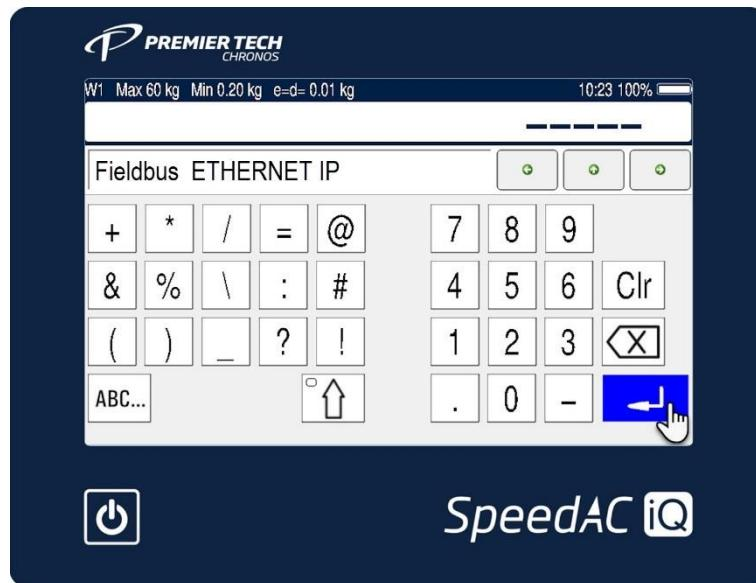
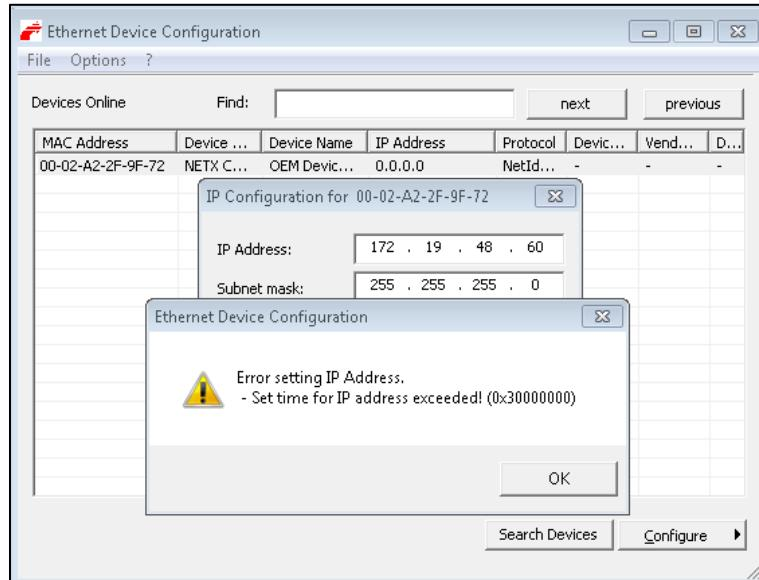

Figure 5: Ethernet IP Selection and Validation Screen
Figure 9: EDC IP Address Error or Timeout
- Locate the **ETHERNET IP** option and validate as per **Figure 5**.
- In case you get a timeout error on setting up the IP address (as per **Figure 9**) you will need to check again if the **Fieldbus** option is correctly selected in the **Service mode** configuration in the current section (**Figure 5**).